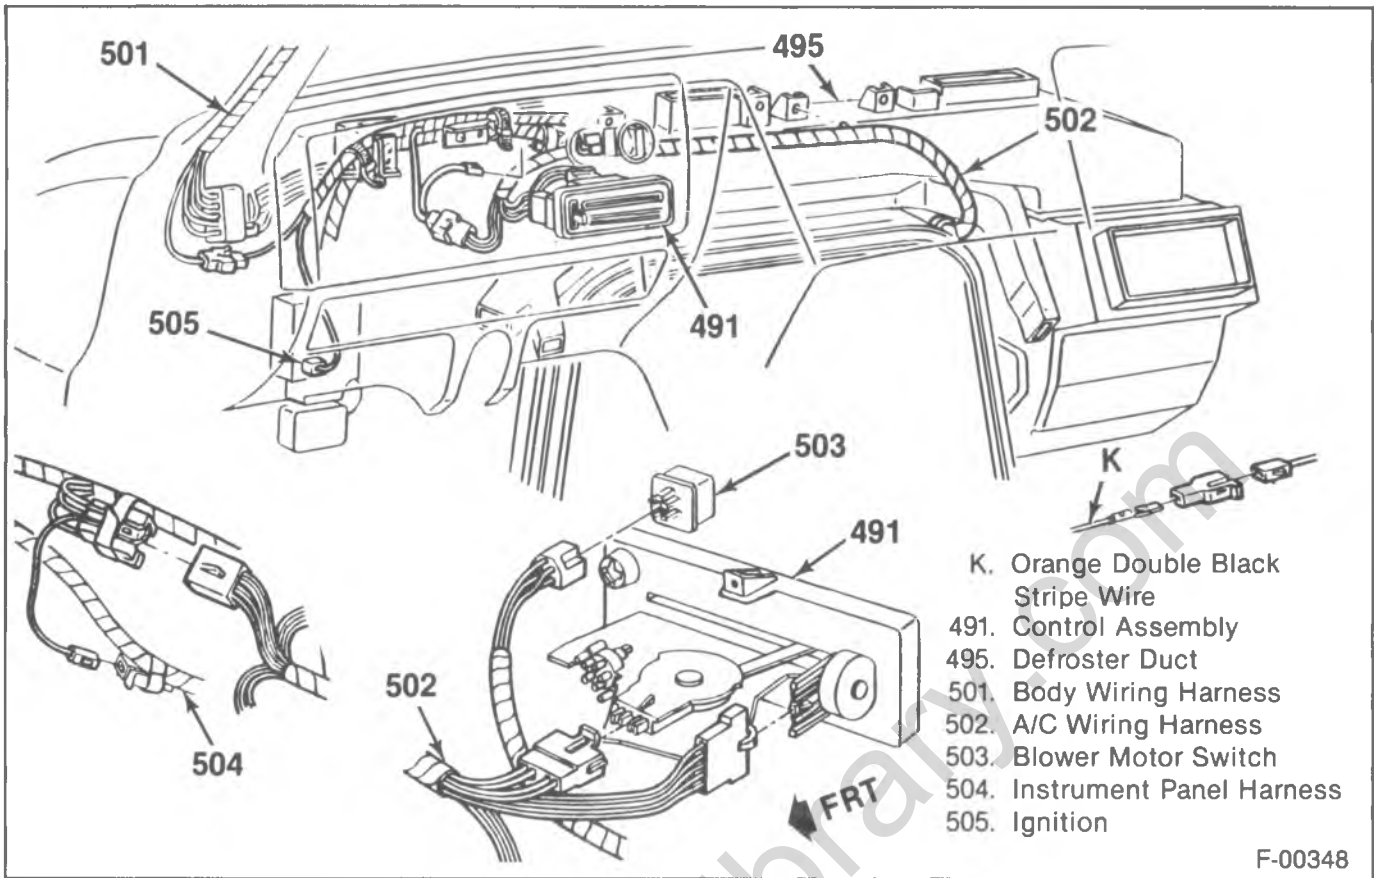

Figure 58—Instrument Panel Wiring Harness
5. Electrical harness (502) (figure 58).